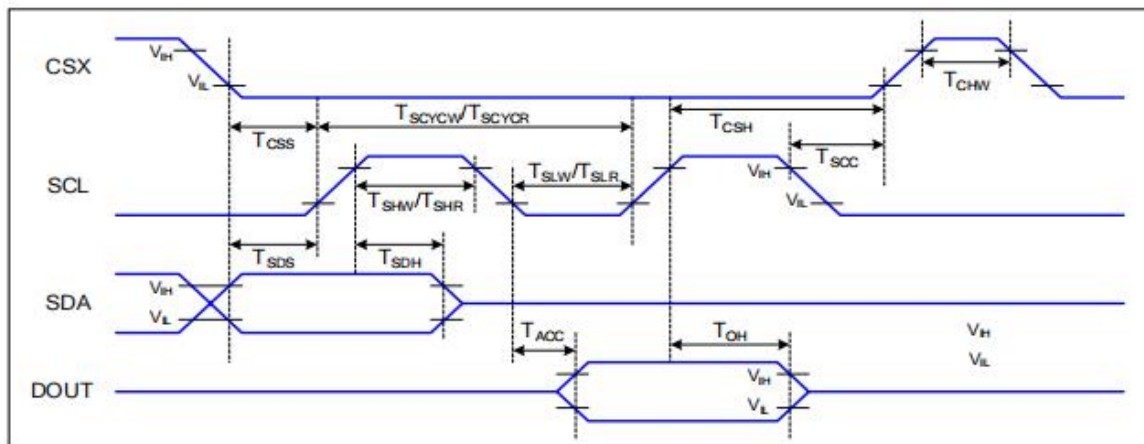

Figure 4 3-line serial Interface Timing Characteristics
3. Center Luminance of white is defined as the LCD surface. Luminance shall be measured with all pixels in the view field set first to white. This measurement shall be taken at the locations shown in FIGURE 4 for a total of the measurements per display.